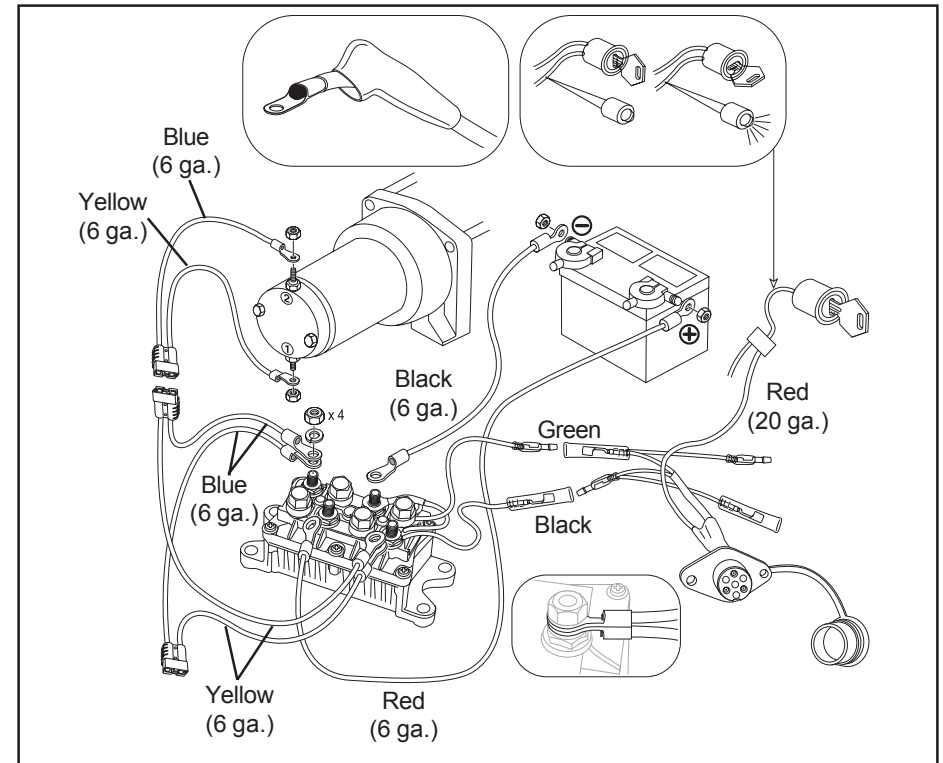

Figure 8. Wiring Installation diagram
- Attach the yellow and blue 48 in (1.2m) and 96 in (2.4m) 6ga wires to the contactor and connect to the yellow and blue contactor posts. Reference the lower right-hand corner of figure 8 to see how to fit two wire terminals onto the contactor posts.